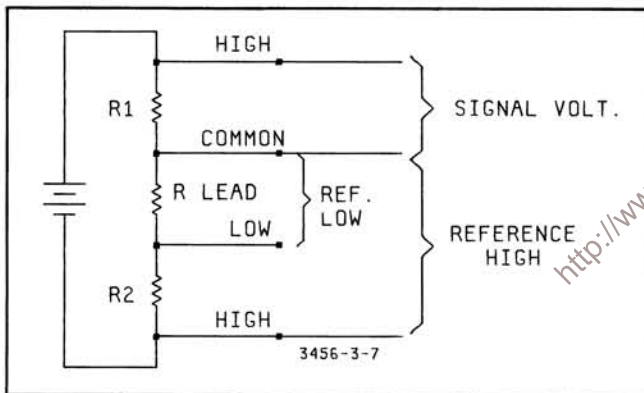

Figure 3-7. Typical Ratio Measurement.
c. Typical Ratio Measurement. Matching resistor values for an accurate voltage divider is one way to use the 3456A's Ratio feature. Try this by using the set up in Figure 3-7. Connect the instrument as indicated in the figure. Make sure that **REFERENCE LOW** is connected at the top of R2 and that **Signal (Volts) Common** is connected at the bottom of R1. Once the instrument is connected and placed in the **DCV/DCV Ratio** mode, a Ratio Measurement is made. The voltage drop across R1 and R2 is measured including any offset voltages between **Signal Common** and **Reference Low**. The offset voltage is used to compensate for any error causing voltages between the input and resistors. Once all the measurements are taken, the Ratio Measurement is displayed on the front panel. If the resistors are equal in value, the reading should be approximately " -1.00000 ".